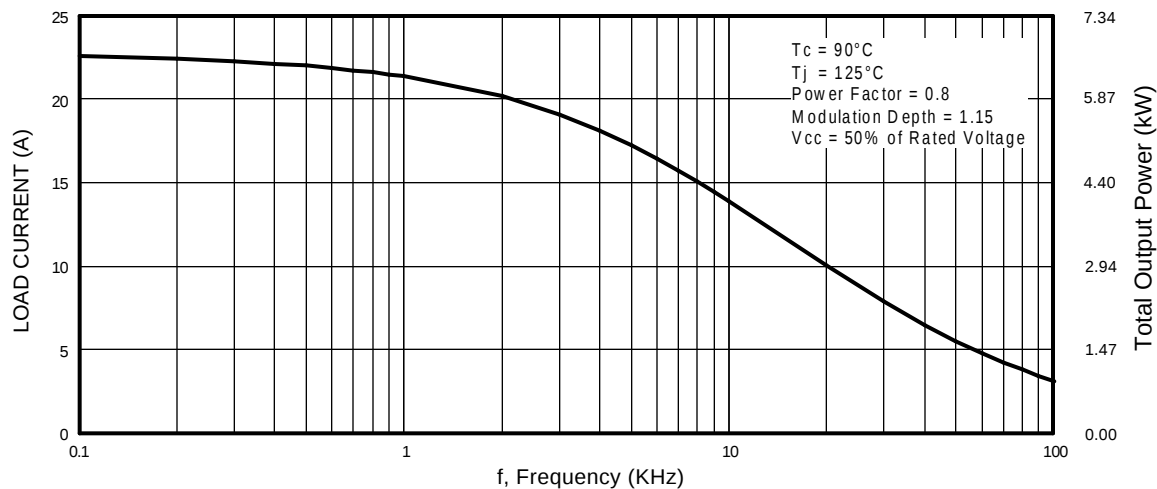

Fig. 1 - Typical Load Current vs. Frequency
- See Fig. 1 for Current vs. Frequency curve
18 A_{RMS} per phase (4.6 kW total) with T_C = 90°C, T_J = 125°C, Supply Voltage 360Vdc, Power Factor 0.8, Modulation Depth 115% (See Figure 1)